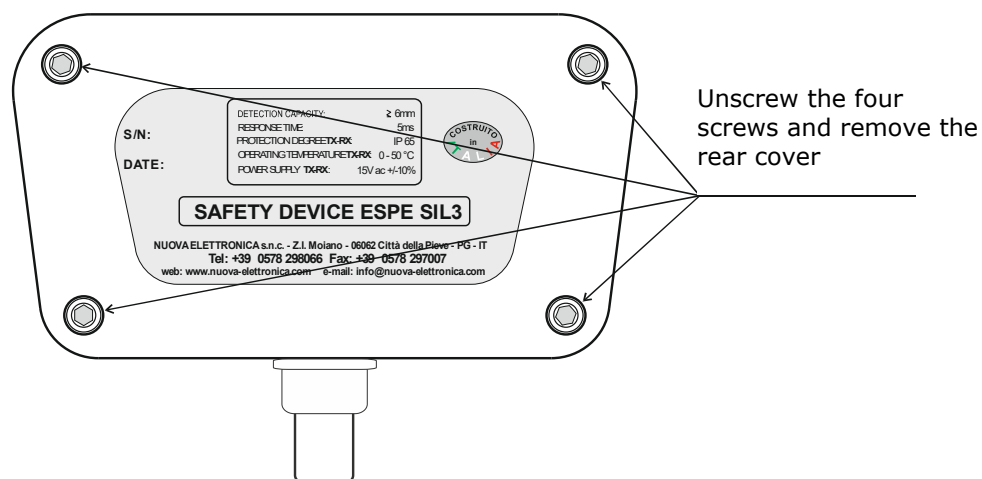

Fig.7
- Remove the rear cover, as from Fig.7 both from TX and RX, unscrewing the four screws.
- Put the rear cover in place and, as from Fig.7, screws the four screws both on TX and RX.